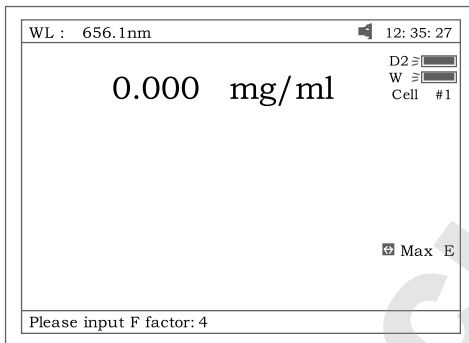

Fig 22
4.1 Press **【F3】** to input known F value, Fig 22. Then push the sample into